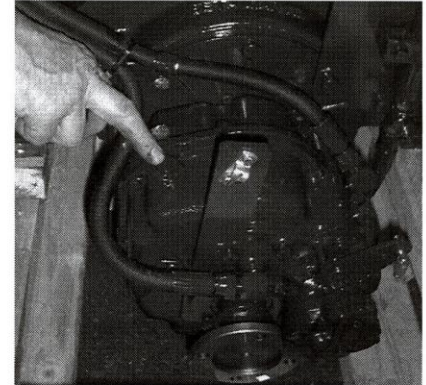

Fig 2e - Gearbox filler
- (1) The gearbox is fitted with a dipstick and oil filler plug, see fig 2e.
- (2) Each engine is supplied with a gearbox operators manual which specifies the type of lubricating oil to be used, the capacity and frequency of changing of the oil.
- (3) New engines are normally supplied with the gearbox topped up with lubricant but Check the level before starting the engine for the first time.
- (4) The oil can be changed via the drain plug at the bottom of the box or sucked out with a hand pump via the filler plug.
- (5) A guide to the type of oil to be used is as follows: